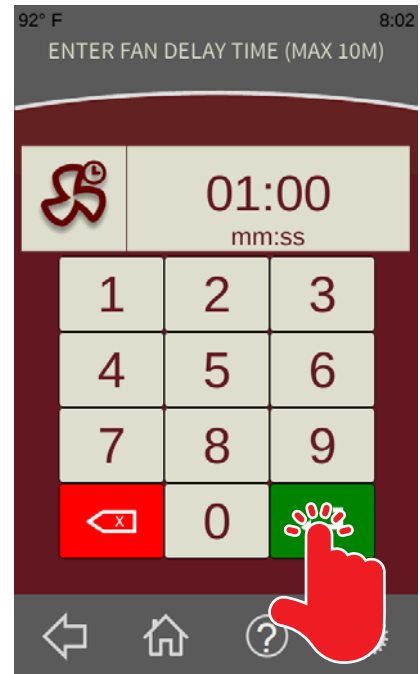

Fig. 10
- From the **Fan Delay Time Screen** (Fig. 10), enter the desired time on the keypad and touch the green Enter button (Fig. 10). The **Quick Start Recipe Run Screen** should be displayed.